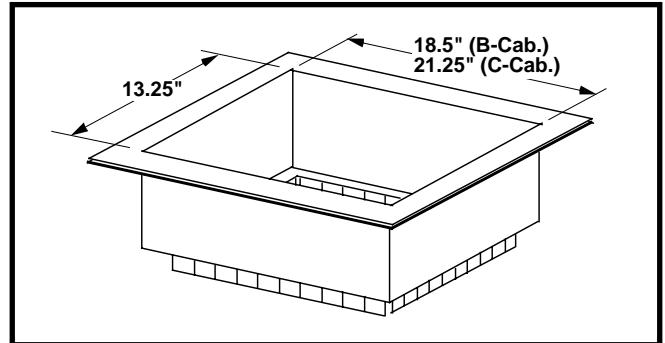

Figure 2. Plenum Adapter
1. Measure and mark the outline of the cut-out on the floor. See Figure 2 for cutout dimensions.